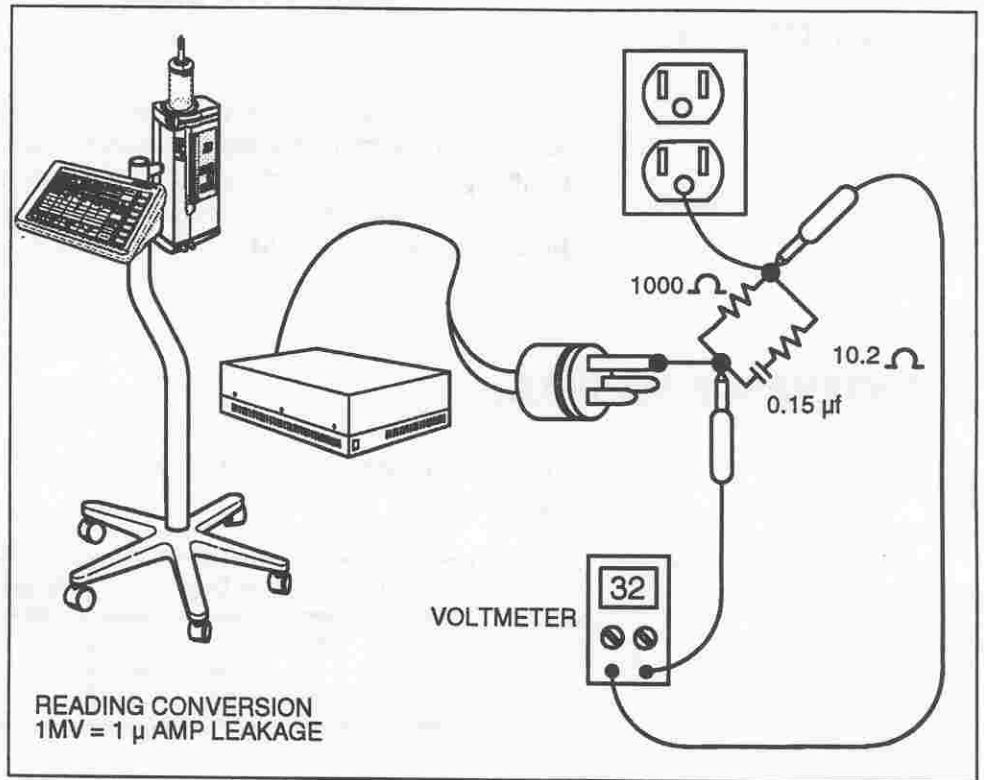

Figure 6-1
- With the unit plugged in, check the electrical leakage with a leakage meter, or use an AC voltmeter with the attenuation network shown in Figure 6-1. The leakage should be less than 100 microamperes. If higher, check for the cause and repair.